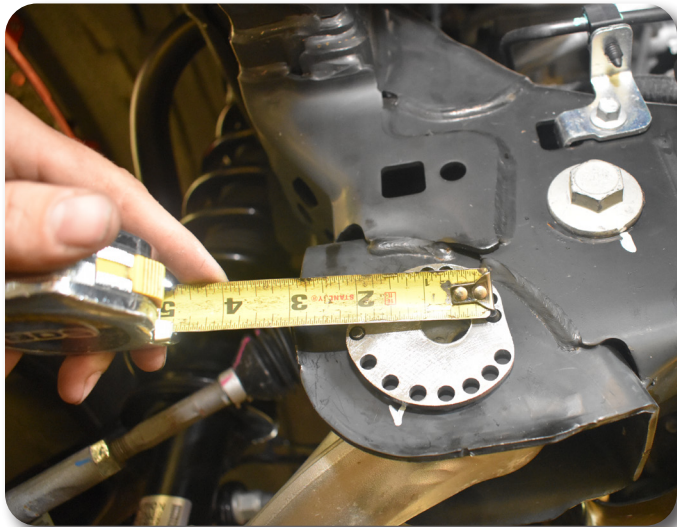

Figure 4
8. Noting the position of the OE cam bolt when removed. Install the bolt side cam plate (cam plate with the larger hole) on the front side of the control arm pocket into the pins **Figure 4**. The center of the hole on the cam plate to the inner pin measurement should be the same or within an 1/16" to the measurement that was recorded earlier. If it is not, then the cam needs to be moved to the next hole position.